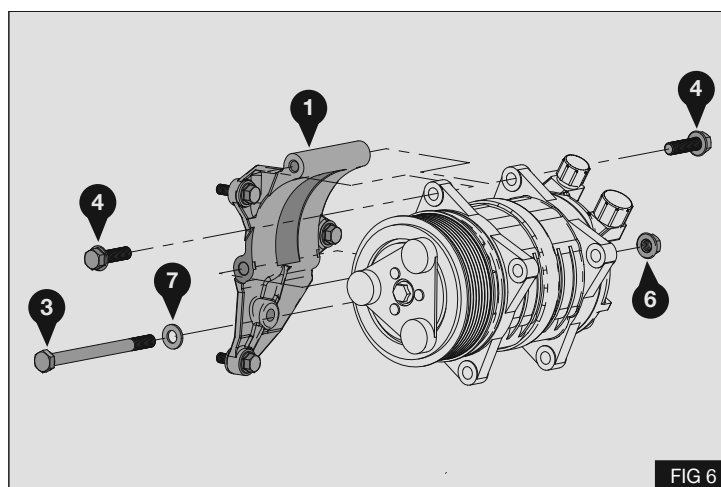

FIG 6
1. Secure the compressor to the mount bracket ① using 2x bolts ④ at the top and bolt ③ with washer ⑦ and nut ⑥ at the bottom - Fig 6